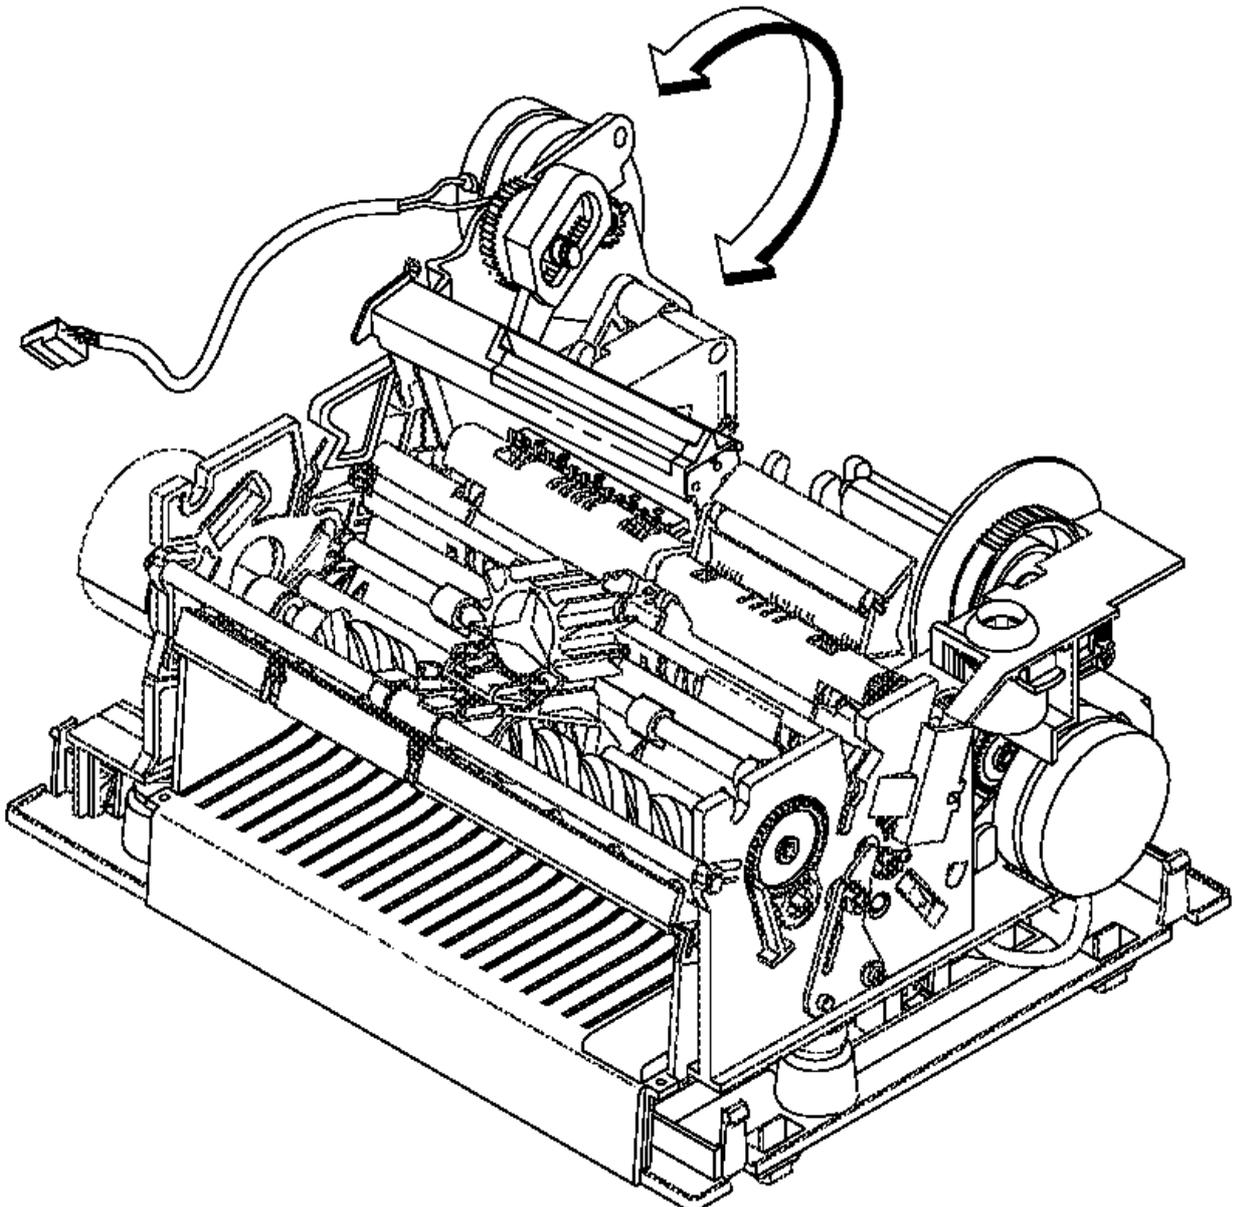

Figure 6-59. Paper Cutter
1. Lower the paper cutter into the platen and rotate as shown in Figure 6-59.